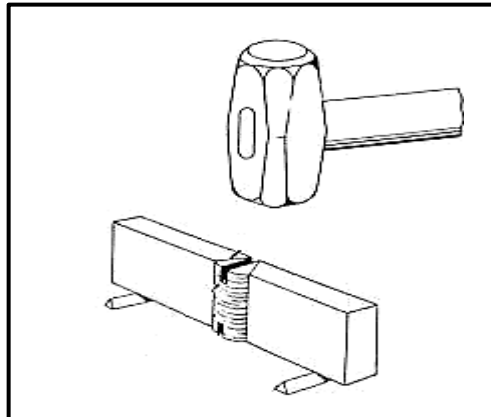

FIGURE 4.12
4.12 Identify the type of test carried out in FIGURE 4.12 below.